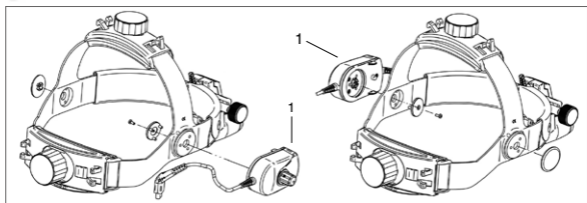
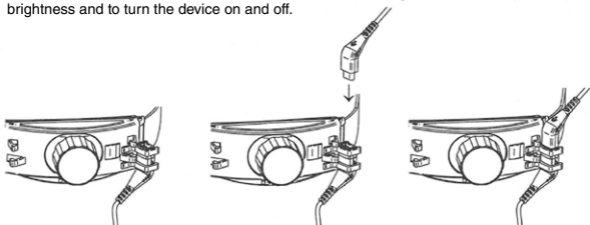

Fig. 6 Fitting the headband rheostat
Fig. 8
You can fit the headband rheostat (1) either on the left or the right side of the headband (see Fig. 6). The headband rheostat (1) can then be used for stepless adjustment of the brightness.
To set up the HEINE® ML4 LED with HEINE® mPack or HEINE® EN50, connect the short cord from the brightness control with the connecting cord mPack UNPLUGGED/ Cinch and fix this to the back part of the headband (Fig. 8). Connect the instrument to the Cinch-socket of the mPack or EN 50. The rheostat (1) (Fig. 6) is used to adjust the brightness and to turn the device on and off.